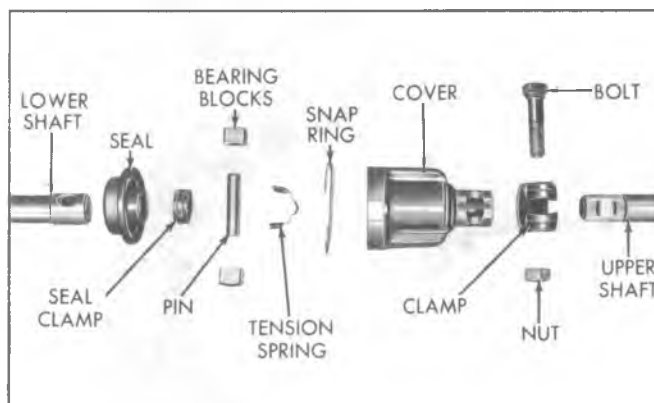

Fig. 10—Steering Shaft Intermediate Coupling (C-K 10-20-30)
Removal (Fig. 10)
- d. If flexible coupling alignment pin plastic spacers were used, make sure they are bottomed on the pins, tighten the flange bolt nuts to specifications and then remove the plastic spacers (fig. 10).